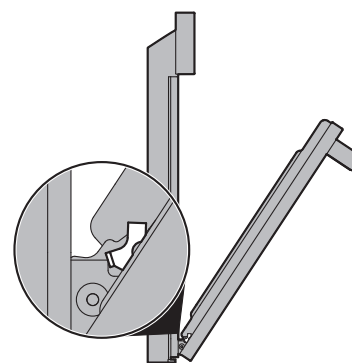

Figure 13: Removal position
Self-cleaning oven interior	Before setting a self-clean cycle, clean soils from the oven frame, areas outside the oven door gasket, and the small area at the front center of the oven bottom. "Figure 13: Removal position" on page 65.
3. Grasp the door by the sides, and close the door until the door frame makes contact with the unlocked hinges (Figure 13).
2. Hold the oven door at the same angle as the removal position (Figure 13). Carefully insert the hinge levers into the oven frame until you feel the hinge levers are seated into the hinge notches. The hinge arms must be fully seated into the hinge notches before the oven door can be fully opened.